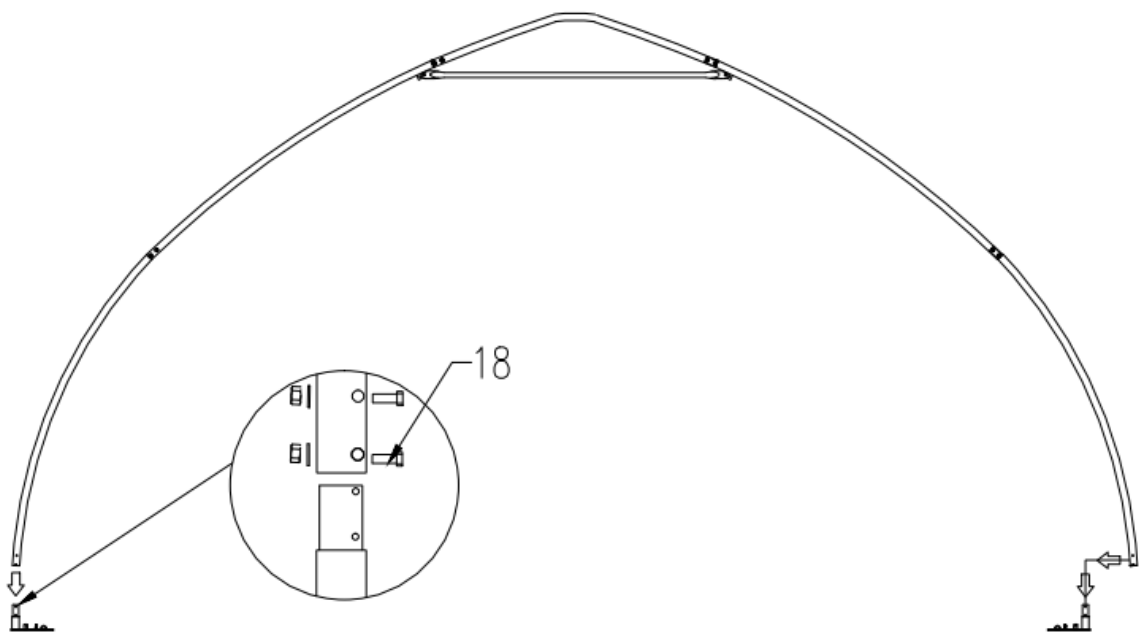

Figure 5
- Use of a crane or forklift is recommended, otherwise a team can use ropes to lift the trusses, but you have to make sure it is safe, and have enough manpower. We recommend 3 to 5 people to pull the truss up from different directions. When the truss is up, tie the ropes to the heavy objects to make sure the truss will stay upright and use bolt (#18) to connect the truss to the baseplate on both sides (figure 5).
- Parts used on this step : (4) Half round head bolt (#18)